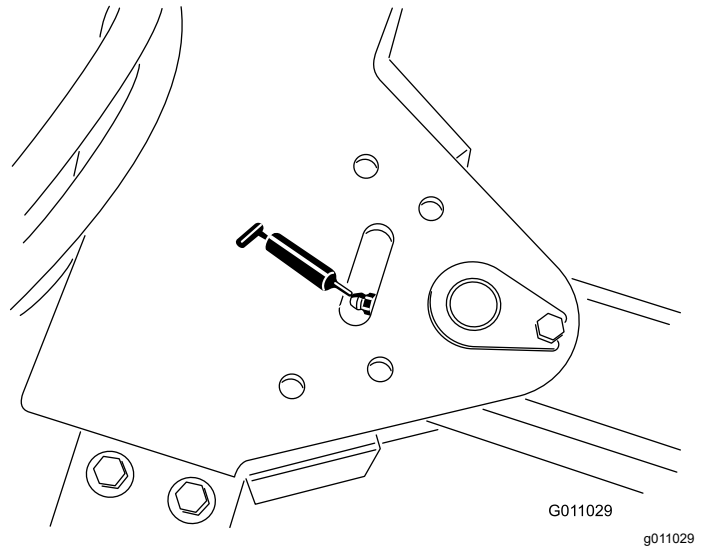

Figure 37
- Hitch tongue pivot (1) (Figure 37)